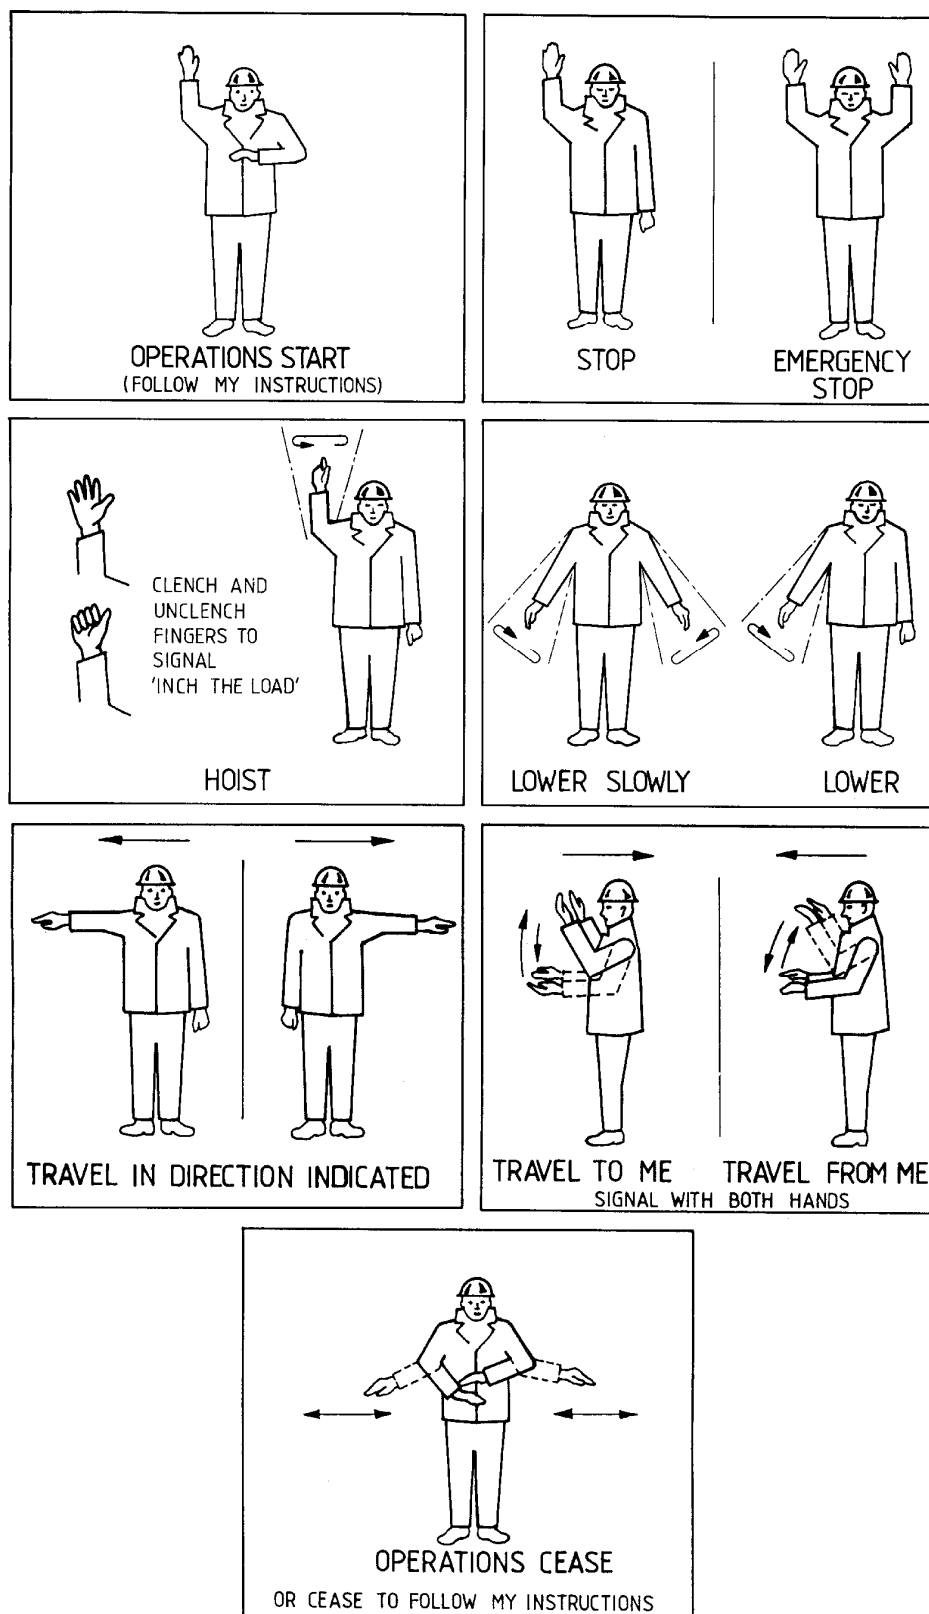

Figure 45 - Recommended Hand Signals
19. Ensure that you can see the hook or load clearly at all times or are receiving signals from someone who can. Ensure that both parties know the full meaning of the hand signals for operating the crane / hoist. See Figure 45 for recommended hand signals.